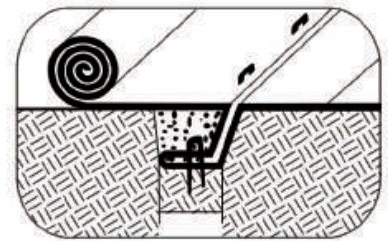

Fig. 5 Intermittent check slot
- Step 2:** Dig intermittent check slots 150mm deep and 150mm wide across the channel at 7-15m intervals depending on the slope gradient of the channel (Fig. 5).
- Step 11:** Fold and secure the matting snugly into all transverse check slots. Lay the matting in the bottom of the slot and then fold back against itself. Anchor through both layers of blanket at 150mm intervals then backfill and compact soil (Fig. 5).